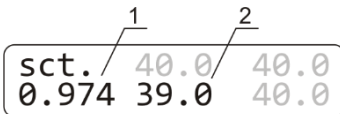

Figure 3. Changing the coefficient:
- 6.4.6 Using the **▲** and **▼ Temp** keys, change the calibration coefficient (fig. 3/1) so that the new temperature value (fig. 3/2) corresponds to the independent sensor temperature. In our example, the calibration coefficient will be 0.974.